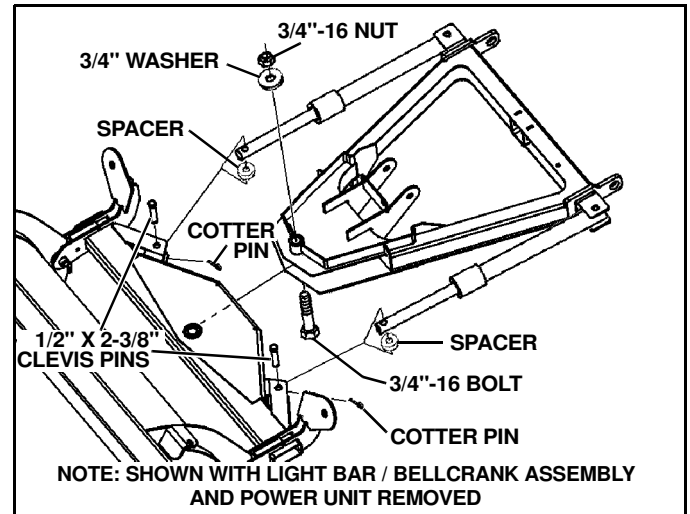
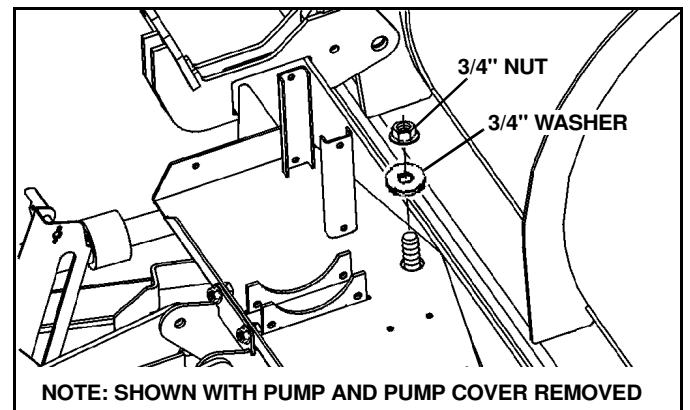

Figure 1-8
Figure 1-9
11. Remove 3/4" lock nut, washer and bolt. Slide swing frame into A-frame. Replace 3/4" bolt, washer and lock nut. Tighten hardware. (See Figure 1-8) and (See Figure 1-9).
12. Remove cotter pins, clevis pins and spacers from rod end of cylinders. Reconnect the power and control. Extend cylinders using plow control to align holes in cylinder rod and swing frame. Replace spacers, clevis pins and cotter pins, making sure that spacer is on bottom of rod. (See Figure 1-8).